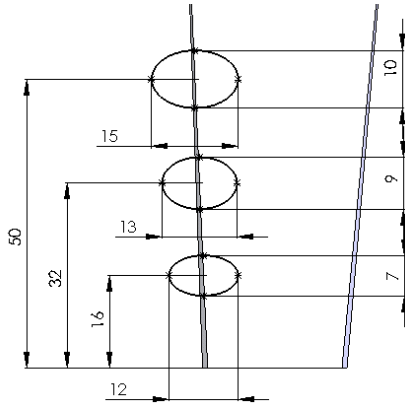

Figure 15-129 Sketch created for extruding the surface
- f. Extrude the elliptical sketches to create the grips of the handle and then trim the unwanted surfaces, refer to Figures 15-129 through 15-132.
2. Create the sketch for extruding the surface to create the grips as shown in Figure 15-129.